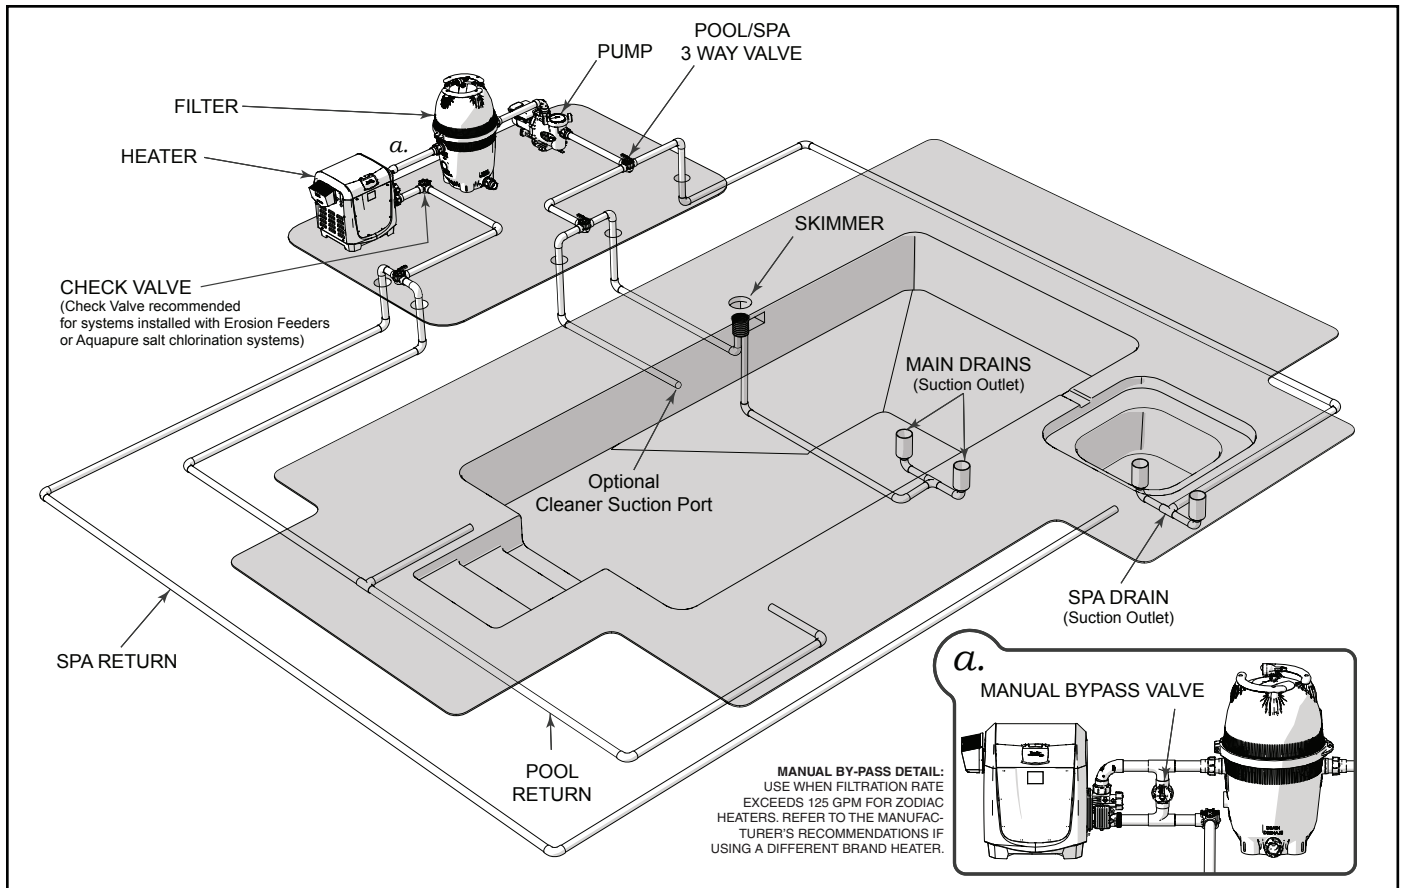

Figure 2. Typical Piping Installation
- The system **must** be built to include at least two (2) suction outlets (drains) connected to the pump whenever the pump is running. However, if two (2) main drains run into a single suction line, the single suction line may be equipped with a valve that will shut off both main drains from the pump. The system shall be constructed such that it shall not allow for separate or independent shutoff or isolation of each drain. See “Figure 2. Typical Piping Installation”.
- More than one (1) pump can be connected to a single suction line as long as the requirements above are met.
- If 100% of the pump’s flow comes from the main drain system, the maximum water velocity in the pump suction hydraulic system must be six (6) feet per second or less, even if one (1) main drain (suction outlet) is completely blocked. The flow through the remaining main drain(s) must comply with the latest version of ANSI/ASME A112.19.8, the standard for Suction Fittings For Use in Swimming Pools, Wading Pools, Spas, and Hot Tubs, or its successor standard, ANSI/APSP-16.
- **Fittings** - Fittings restrict flow; for best efficiency use fewest possible fittings (but at least two (2) suction outlets).